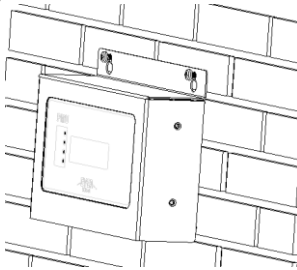

Fig. 5-3: Hang the PMU
- Step 3: Hang the PMU on the screw heads by tilting it slightly as shown in Fig. 5-3.